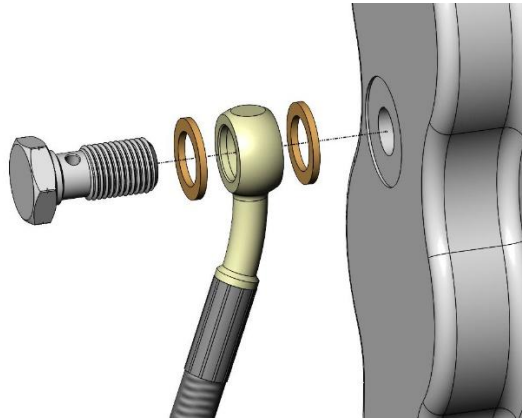

Figure 7 – Hose Installation
11. Install the Stainless Steel braided hose using one copper crush washer on each side of the banjo fitting. Connect the hose to the hardline and install the hose lock. **IMPORTANT: Position the hose to avoid interference with the wheel and suspension components through the entire range of motion.** Torque the banjo bolt to 15-20 ft/lbs. See Figure 7 below for reference.